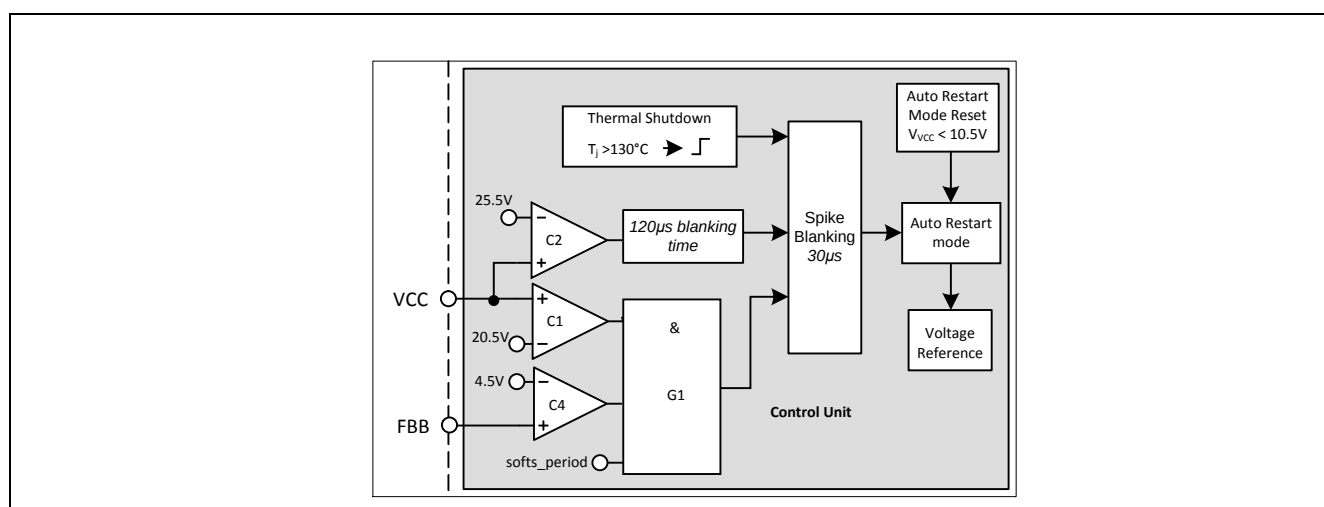

Figure 30: Vcc OVP and OTP
VCC OVP (1) condition is when V_{VCC} voltage is > 20.5V, V_{FBB} voltage is > 4.5V and during soft start period, the IC enters into odd skip Auto Restart Mode. This condition likely happens during start up at open loop fault (Figure 30).
V_{CC} OVP (2) condition is when V_{CC} voltage is > 25.5V, the IC enters into odd skip Auto Restart Mode (Figure 30).
The over temperature protection OTP is sensed inside the controller IC. The Thermal Shutdown block keeps on monitoring the junction temperature of the controller. After detecting a junction temperature higher than 130°C, the IC will enter into the non switch Auto Restart mode. The ICE3AR0680VJZ has also implemented with a 50°C hysteresis. That means the IC can only be recovered when the controller junction temperature is dropped 50°C lower than the over temperature trigger point (Figure 30).